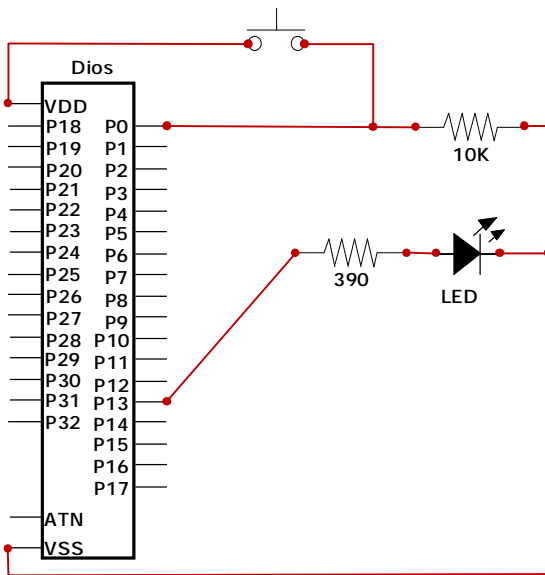

Figure 2.5A
- ❑ Load your microcontroller with Program 2.4. Rebuild the circuit in Figure 2.5A if you need to.